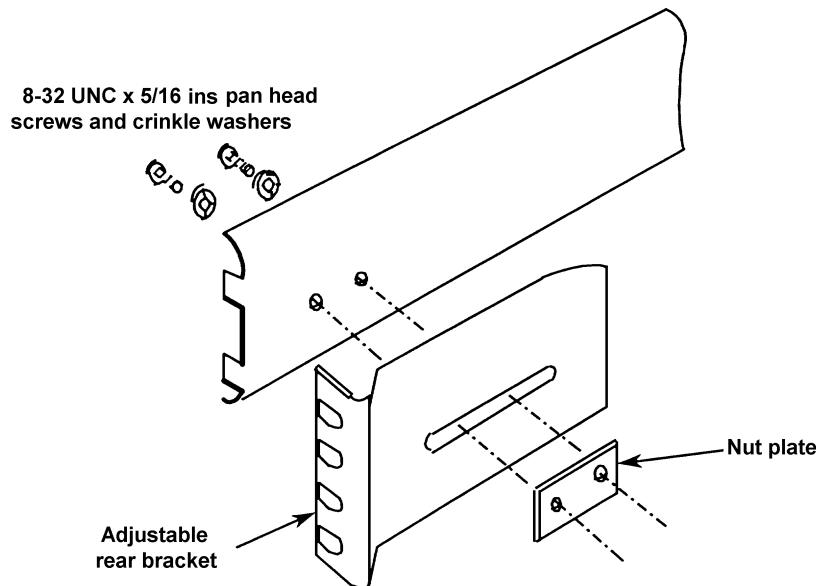

Figure 2.5 - Fitting a rear bracket
3. Fit the following items to the telescopic slide outer members, as shown in Fig. 2.5 and 2.6: